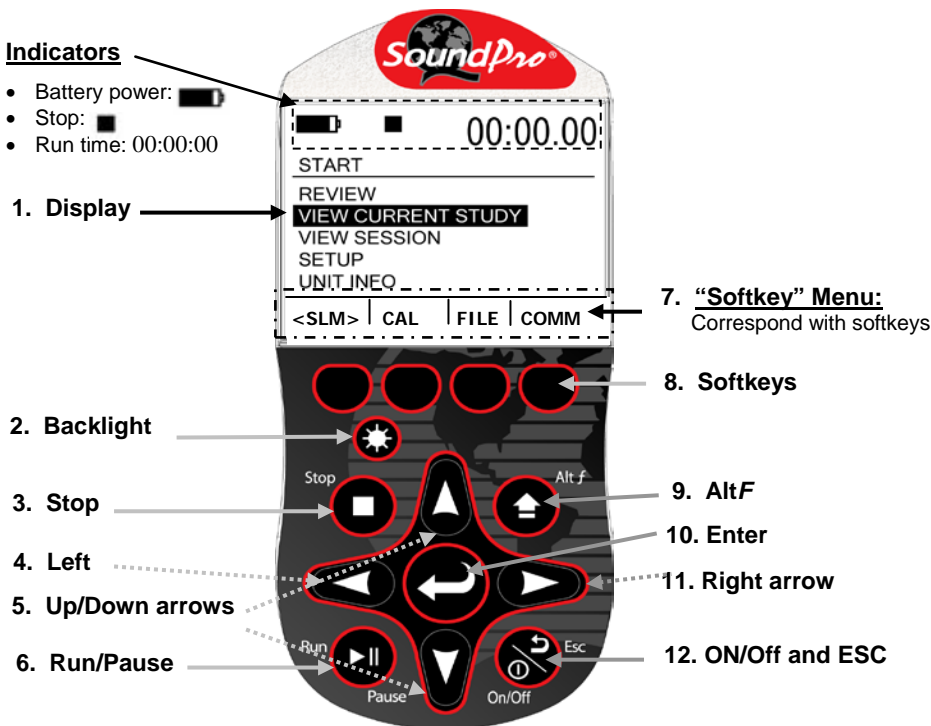

Figure 2-10: SoundPro SE/DL start screen and keypad
| 8. Softkeys | The Softkey buttons correspond with the softkey menu. (Please see Figure 2-10 above). |
- If turned on, ensure you are at the start screen by pressing **On/Off/Esc**  repeatedly until you return to start screen (see Figure 2-10).
- If turned on, ensure you are at the start screen by pressing **On/Off/esc** repeatedly until you return to start screen (see Figure 2-10).